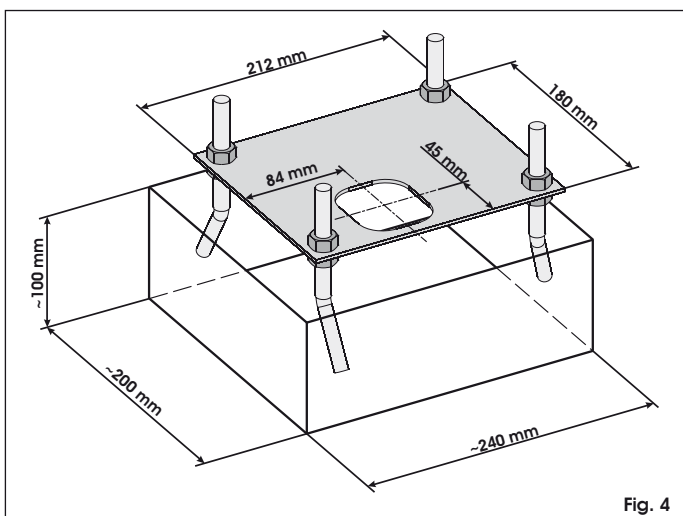
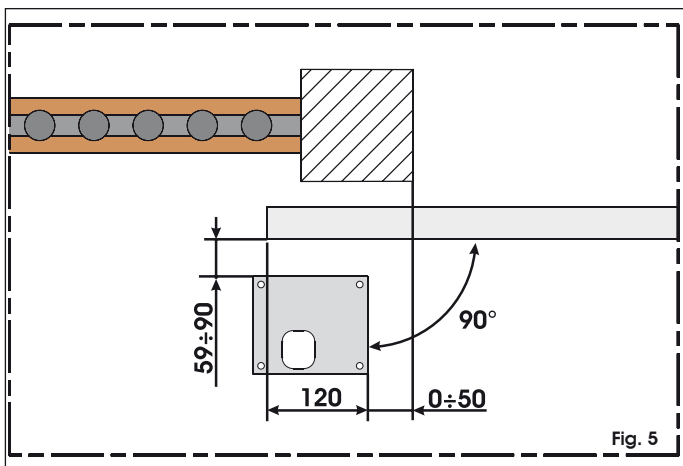
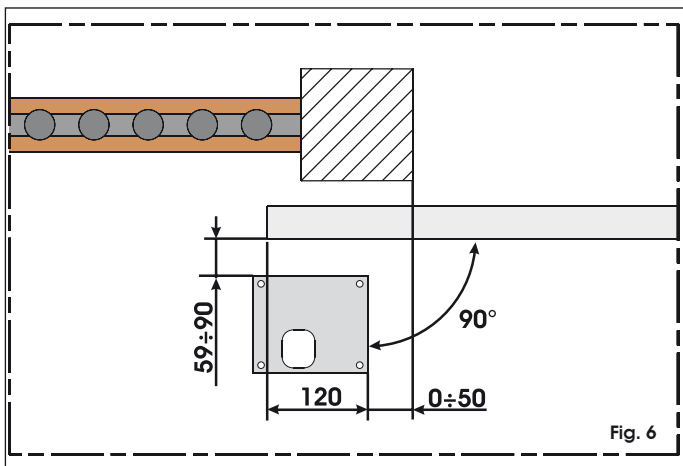

Fig. 4
Fig. 5
Fig. 6
2. Dig a cavity for the foundation plate as shown in Fig. 4. The foundation plate must be located as shown in Fig. 5 (right closing) or Fig.6 (left closing) to ensure correct meshing between rack and pinion.
- ⚠ 2) The operator is supplied for installation with the gate closing on the right of the operator (looking from the inside) (fig. 5). If you require left-hand closure, change over the connection of the cables connected to the terminals of the motor.**